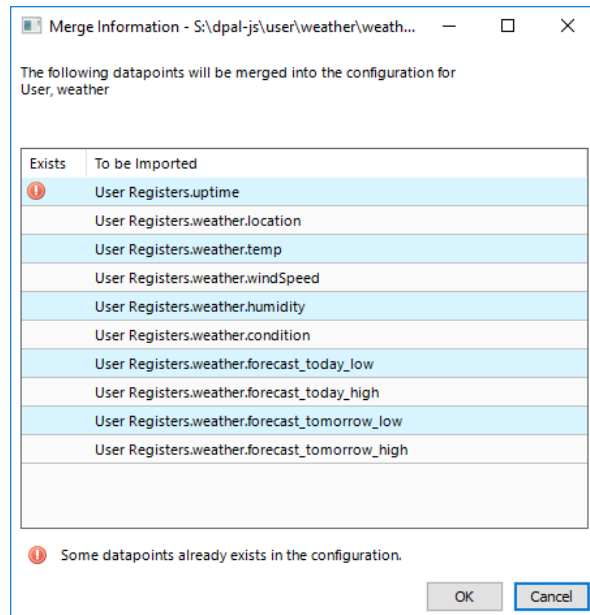

Figure 224: Merging data points defined by script resource
4. If the script resource includes a data point configuration, the user registers and favorites are merged into the existing configuration. A dialog as shown in Figure 224 lists the merged data points and identifies any conflicts. Already existing data points are not overwritten.